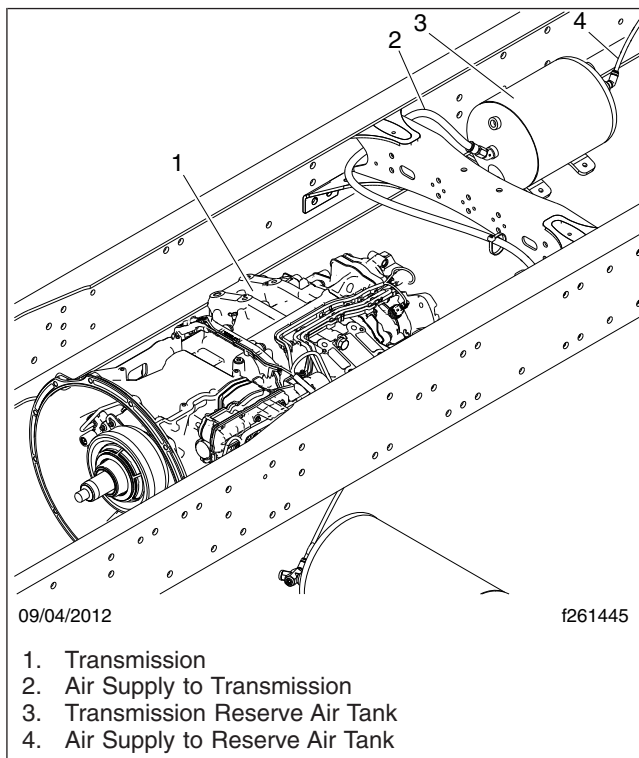

Fig. 12, Isolated Transmission Reserve Air Tank (typical installation)
2. Drain the main air system and the isolated transmission reserve air tank. See Fig. 12.